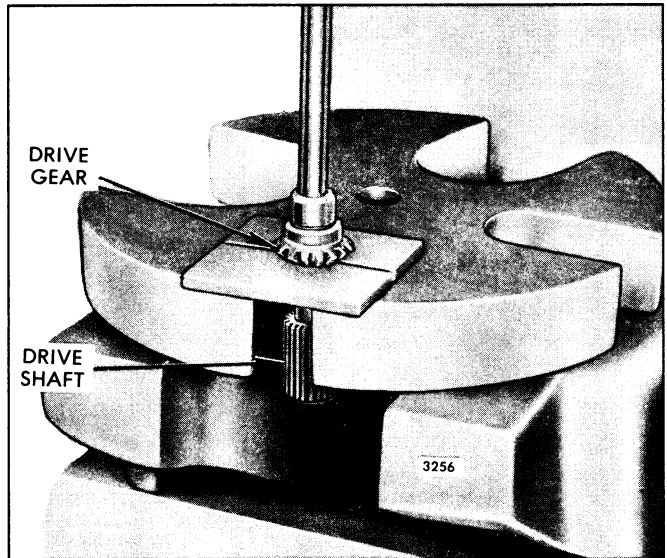

Fig. 6 - Removing Gear from Drive Shaft
8. Place two brass plates beneath the teeth of the drive gear and support the assembly on an arbor press (Fig. 6). Then, place a brass rod on the end of the drive shaft and press the shaft from the gear.